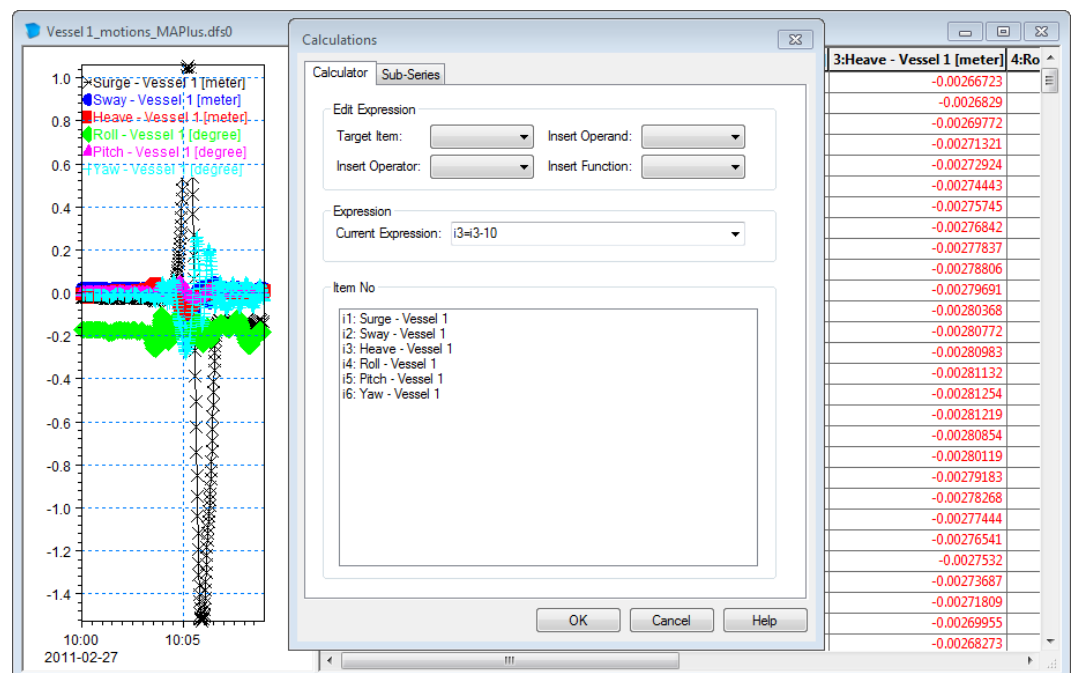

Figure 3.30 Modifying position of vessel to accommodate local coordinate system of 3Dsolid.
12. Subtract 10 m from the third item (Heave) to account for the Draft of the vessel, see Figure 3.30. Press OK and Save